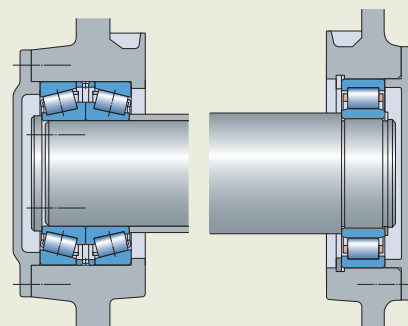

Fig. 7
- NUP design cylindrical roller bearing / NU design cylindrical roller bearing (fig. 7)